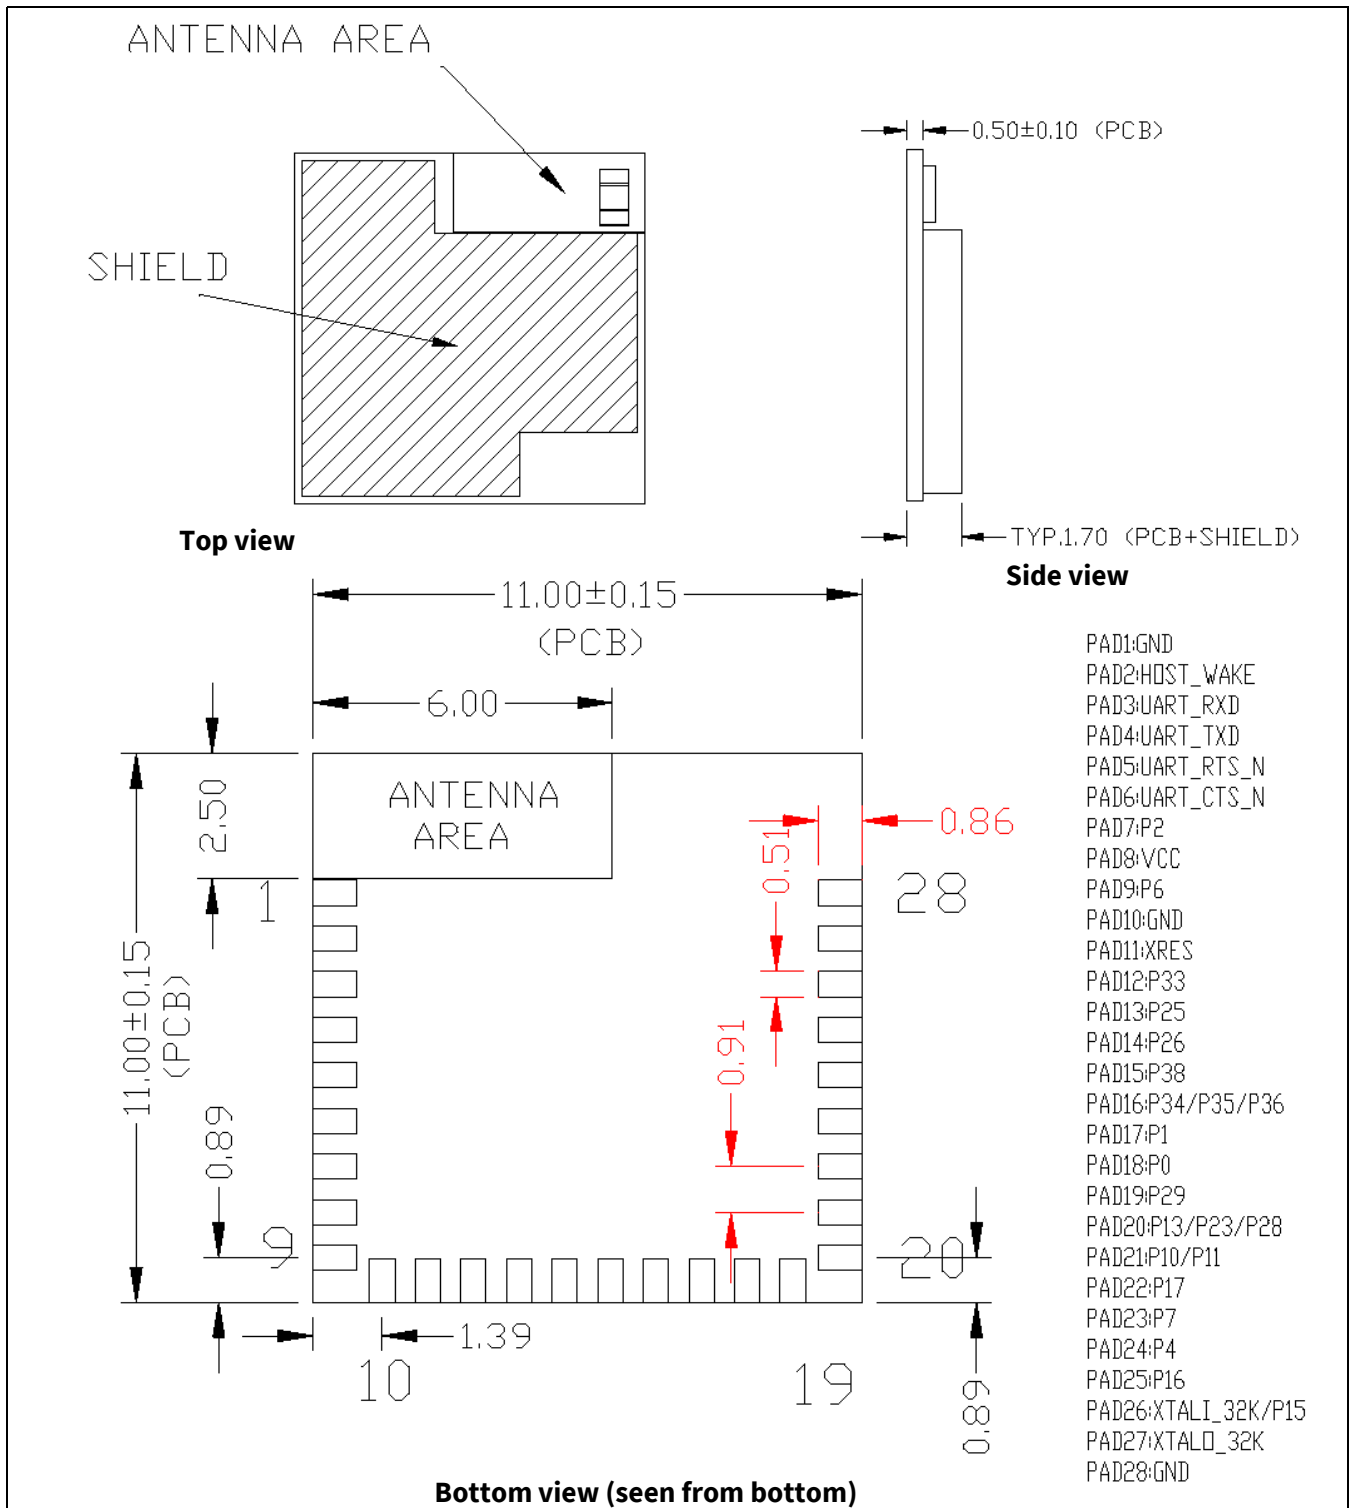
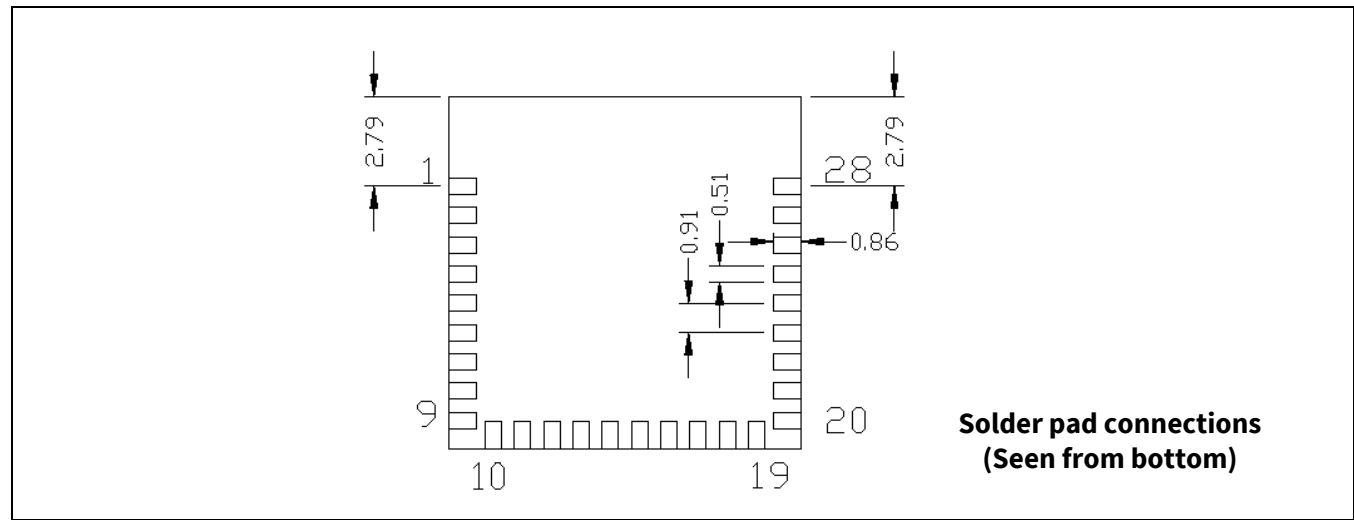
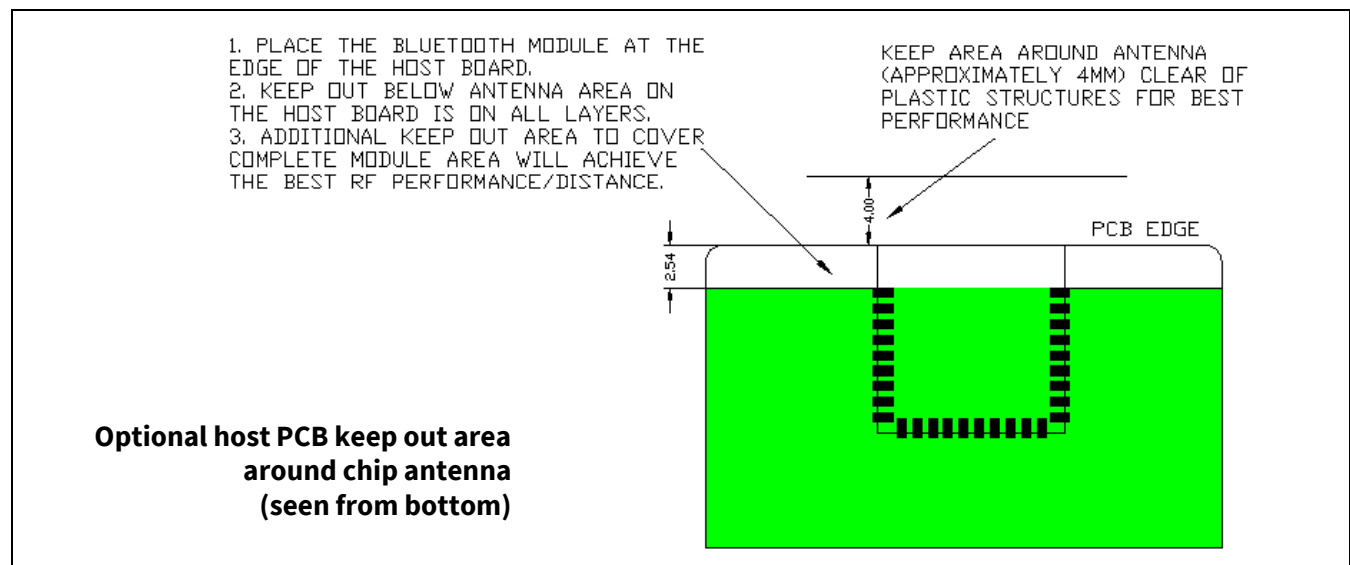

Figure 2 Module mechanical drawing^[1]
Figure 3 Solder pad dimensions (seen from bottom)
Figure 4 **Optional additional host PCB keep out area around CYBT-4230xx-02 chip antenna**
Infineon reserves the right to select components from various vendors to achieve the Bluetooth® module functionality. Such selections will still guarantee that all mechanical specifications and module certifications are maintained. Any changes to the current BOM for CYBT-4230xx-02 will not be made until approval is provided by the end customer for this product. CYBT-4230xx-02 will be held within the physical dimensions shown in the mechanical drawings in Figure 2. All dimensions are in millimeters (mm).
See Figure 2 for the mechanical reference drawing for CYBT-4230xx-02.
As shown in the bottom view of Figure 2, CYBT-4230xx-02 has 28 connections to a host board via solder pads (SP). Table 2 and Figure 3 detail the solder pad length, width, and pitch dimensions of CYBT-4230xx-02 module.
1. Antenna area keepout: The host board directly below the antenna area of the module (see Figure 2) must contain no ground or signal traces. This keep out area requirement applies to all layers of the host board.
2. Module placement: The ideal placement of the Bluetooth® module is in a corner of the host board with the chip antenna located at the far corner. This placement minimizes the additional recommended keep out area stated in item 3 below. See AN96841 for module placement best practices.
3. Optional keepout: To maximize RF performance, the area immediately around the Bluetooth® module chip antenna may contain an additional keep out area, where there are no grounding or signal traces. The keep out area applies to all layers of the host board. The recommended dimensions of the host PCB keep out area are shown in Figure 4 (dimensions are in mm).